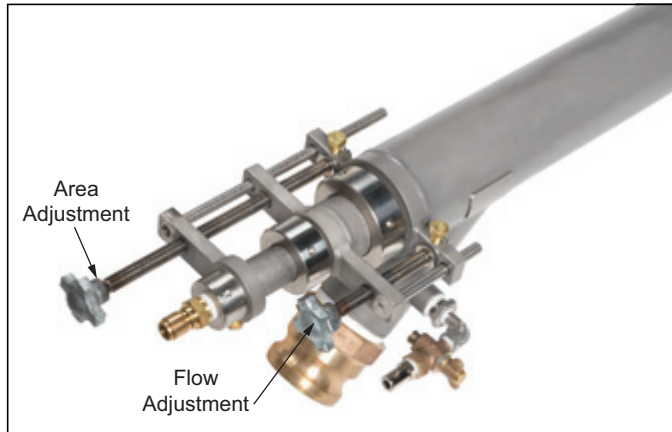
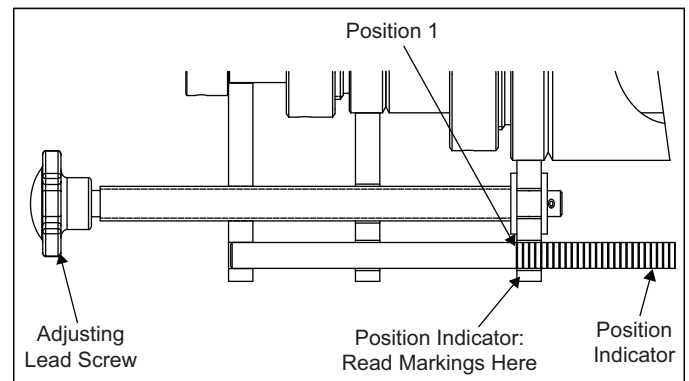
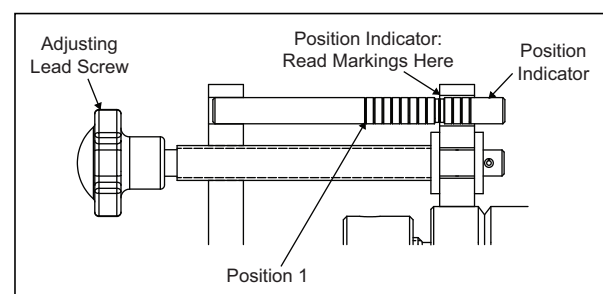

Figure 2.1. BrightFire 200 Adjustments
Figure 2.2. Area Adjustment Mechanism
Figure 2.3. Flow Adjustment Mechanism
5. Prior to installing the burner in the bracket, set the area adjustment (refer to figure 2.1 for burner adjustment identification) so that the tip of the inner nozzle is about even with the beginning of the taper of the outer nozzle (see figure 1.3).
6. Set the flow adjustment to position 6 (refer to figure 2.3).
2. Prior to installing the burner in the bracket, set the area adjustment (refer to figure 2.1 for burner adjustment identification) so that the tip of the inner nozzle is about even with the beginning of the taper of the outer nozzle (see figure 1.3).
3. Prior to installing the burner in the bracket, set the area adjustment (refer to figure 2.1 for burner adjustment identification) so that the tip of the inner nozzle is about even with the beginning of the taper of the outer nozzle (see figure 1.3).
4. Set the flow adjustment to position 6 (refer to figure 2.3).
The BrightFire® 200 has two adjustment valves, an area adjustment (see Figure 2.1) and a flow adjustment. The area adjustment (see Figure 2.2) changes the annulus area between the inner and outer nozzles and is used to control flame length. The flow adjustment (see Figure 2.3) opens and closes an internal valve that changes the distribution of gas flow between the outer and inner gas tubes and is used to control where the heat from the flame is released in the furnace. This can be changed independently of the flame length. In addition, the firing angle of the burner can be adjusted using the gimbal mounting bracket adjustments to optimize gas flow into the air stream. (Refer to Gimbal Bracket Info Guide 1113.)
To read the indicator rod positions for the area and flow adjustments, the first ring starting from the back of the burner indicates position '1'. The position is indicated by the ring that is flush with the back face of the adjusting lug. Position 1 on the area adjustment rod indicates the inner nozzle is all the way forward within the outer gas annulus, flush with the face of the outer nozzle. Position 1 on the flow adjustment rod indicates the inner flow valve is closed with the maximum amount of gas flow through the center jet. Refer to figures 2.2 and 2.3 which show an area adjustment at position 1 and a flow adjustment at position 10.